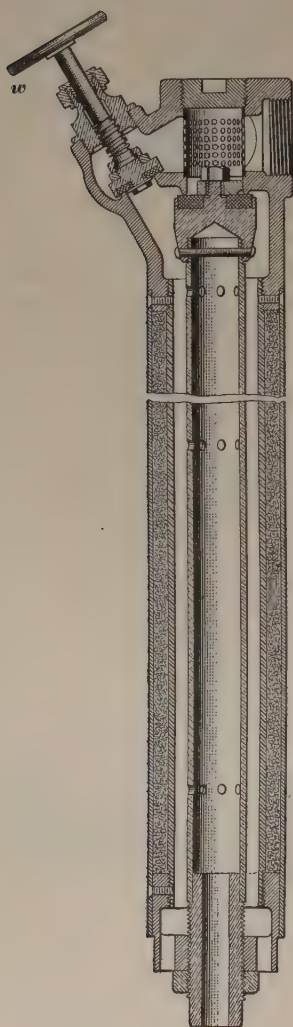

FIG. 7 (a)
7. The Safety Company uses two styles of automatic traps for discharging the water of condensation. Fig. 7